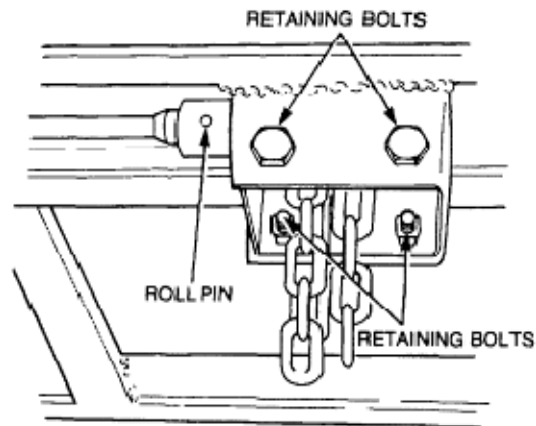

Figure 176 Spare Wheel Carrier Removal
- c. Withdraw the shaft from the coupling (Figure 176).